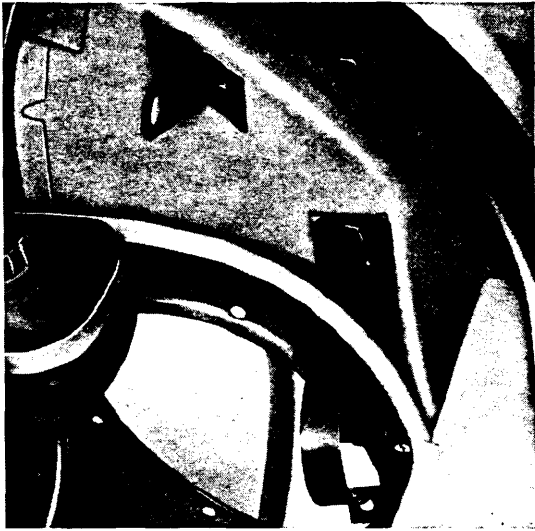

Fig. 6
- 8 - Locate the brackets for the fuel pump and filter in the depressions provided in the left-hand side panel and then mark off and drill holes. Secure filter bracket with 2 tapping screws and the pump bracket with 2 M 6 screws and nuts (Fig. 6).